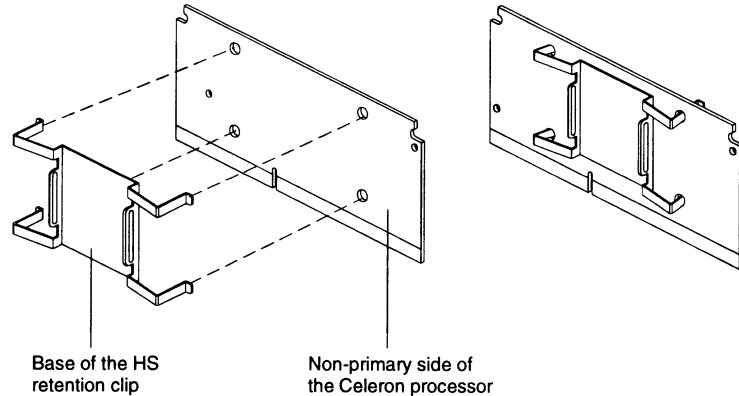

Figure 3-5: Inserting the heat sink retention clip into the non-primary side of the Celeron processor.
2. Carefully insert all four legs of the HS retention clip into the Celeron processor. The base of the HS retention clip must be located on the non-primary side of the processor (see Figure 3-5).